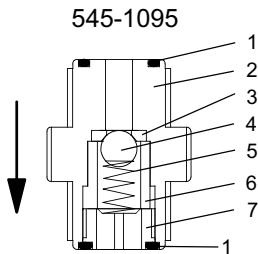

fig. 8 Changing the valve seat and ball.
- If water escapes: Replace valve seat (pos. 5 see fig. 8)
- Remove spring (pos. 5, see fig. 8) and ball (pos. 4, see fig. 8) from the valve housing (pos. 2, see fig. 8).
- Remove the spacer (pos. 6, see fig. 8).
- Remove the seat (pos. 3 see fig. 8)
- Insert new spacer (pos.6, see fig. 8).
- Remove ball (pos. 4, see fig. 8) and spring (pos. 5, see fig. 8) from the valve housing (pos. 3, see fig. 8).
- If necessary, replace the O-ring (pos. 1, see fig. 8).